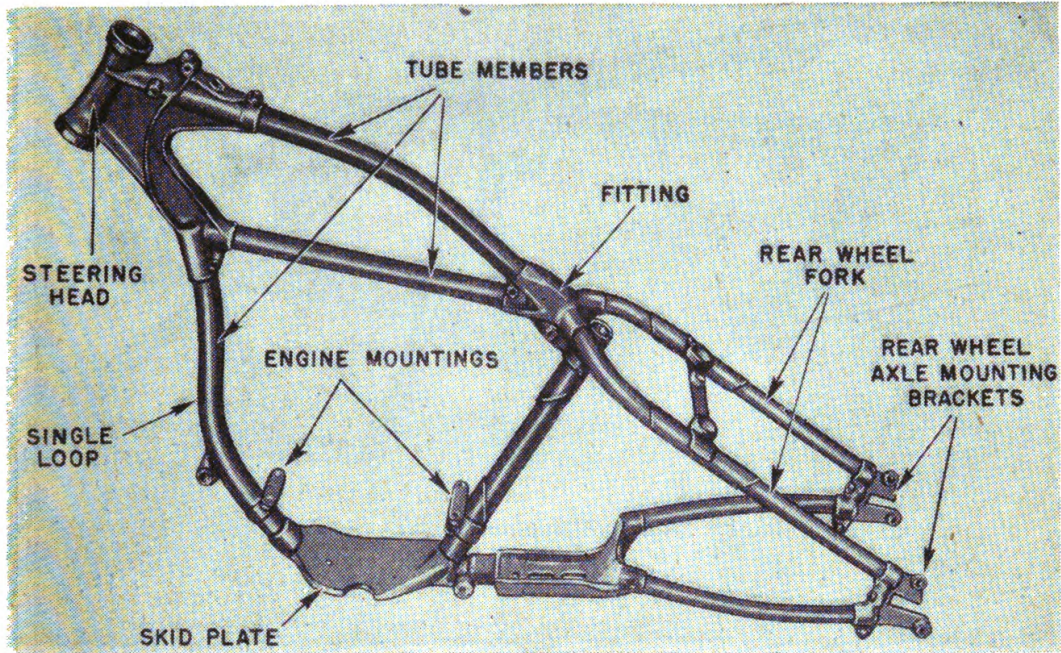

FIGURE 24.—Single-loop frame.
a. *Single- and double-loop frames* (figs. 24 and 25) are rigid supporting structures complete in themselves. In a single-loop frame, the lower member consists of one tube; in the double-loop frame, there are two tubes. The engine is bolted to the frame. A skid plate underneath the frame protects the engine.